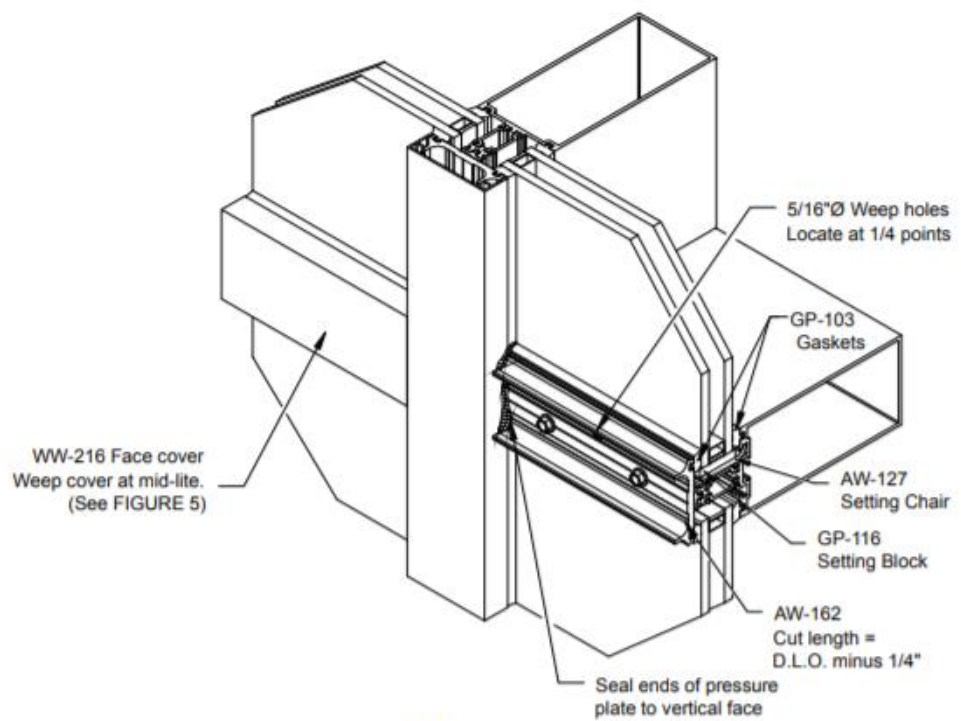

FIGURE 4
2.3 Seal horizontal pressure plate to verticals and install face caps. Reference system installation manuals for more information. See FIGURE 4, page 6.